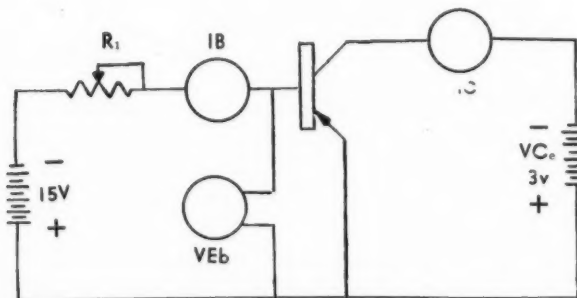

Fig. 3. HFE and GM Test
F. Large Signal Current gain, $HFE = \frac{IC}{IB}$, and transconductance, $GM = \frac{IC}{VE_b}$, are measured as indicated in Fig. 3.
Stabilization of ocean-going ships in heavy seas is achieved by giant fins (Fig. 3) which counter the natural roll and pitch motions of the ship. The fins are moved by hydraulic actuators controlled through servos from stable-element gyros.
FIG. 3. THE SPERRY GYROFIN stabilizer installed in the USS Compass Island reduces ship roll to one-tenth that of unstabilized sister ships. Servo systems compute stabilizing moment and transmit amplified anti-roll signals to hydraulically-actuated fin shown. (Courtesy Sperry Gyroscope Co.)